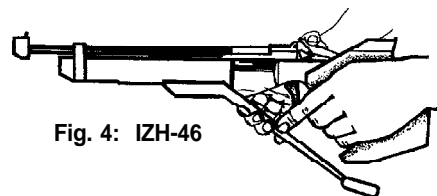

Fig. 4: IZH-46
**C)** Close the bolt by depressing the bolt lever down until the bolt is locked down with the bolt lever (See Fig 4). **Warning - do not close the bolt until are ready to fire, the safety on this air pistol is simply the bolt - if you have not closed the bolt the pellet will not be expelled from the barrel. Note - if you pull the trigger and the air has been compressed in the cylinder and the bolt is open (90 degrees from the firing plane) the pistol will discharge the compress air in the cylinder.**